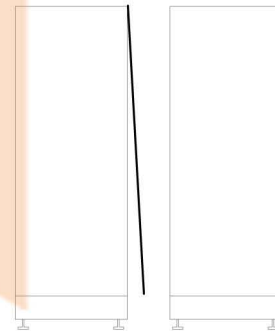

FIGURE 7
- B.** Place top draw block of panel connector on top wedge block of first panel. See figure 7.
- C.** Lengthen panel connector by turning out allen screw in top draw block until bottom draw block clears bottom wedge block of panel. See figure 7.